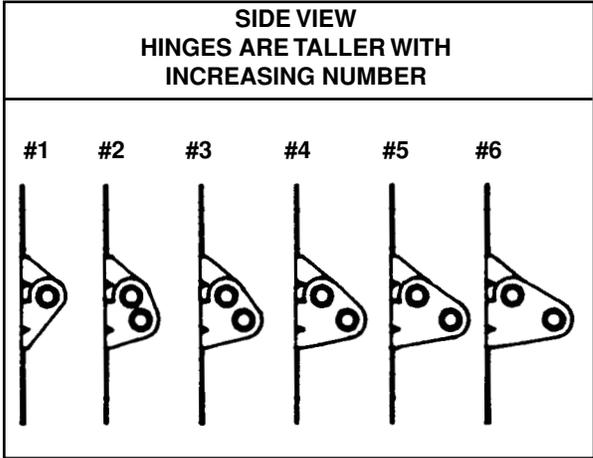

Fig. 2-S
Step 1: On the inside of the garage your opening should be framed with wood jambs, 2" x 6" [51 mm x 152 mm] if possible, or with steel channel as shown in Figure 1-J. The side jambs should extend to approximately the same height as the headroom required. If you have just removed an old door, the condition of the jambs should be inspected. If the jamb has deteriorated, it should be replaced now. The jambs should be plumb and the header level. If there are any bolts fastening the jambs to the wall, the heads should be flush so they don't interfere with the installation of your new door. (FIG. 1-J) Typical installation for wood, steel or masonry jamb material is shown in Figure 2-J.
- Rollers in end hinges will use farthest sleeve from section. (FIG. 2-S)
Some have flanges which hook under the bottom section and some do not. Install cables, then position the bracket in place. (FIG. 1-S) Install hinges on end and center stiles of the bottom section using #14 x 3/4" [6 mm x 19 mm] self-drilling screws. See Figure 2-S for sequence and hinge placement. For Model 901 doors and doors with Full Vision see page 13. Stack bottom section in opening. **Long stem rollers provided go into bottom brackets.** Install vertical track as described on page 15. Top rollers will hold section in place.
Section Seal. If section seal is provided or bought as an option, it should be installed over the inside ship lap or inside the groove as indicated in Figure 1-LAP and Figure 2-LAP.
#2 Section. Attach bottom half of center hinges to top of section using #14 x $\frac{5}{8}$ " [6 mm x 16 mm] hex head sheet metal screws. Attach end hinges. (FIG. 2-S) If section has lock see Step 4 for sequence. Stack section. After section is stacked, rollers in the track will hold section in place. (If struts are supplied see Figure 3-S for placement.)